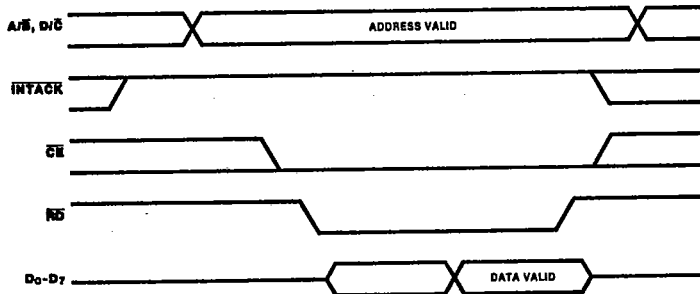

Figure 1. Read Cycle Timing
**Read Cycle Timing.** Figure 1 illustrates Read cycle timing. Addresses on  $A/\overline{B}$  and  $D/\overline{C}$  and the status on  $\overline{INTACK}$  must remain stable throughout the cycle. If  $\overline{CE}$  falls after  $\overline{RD}$  falls or if it rises before  $\overline{RD}$  rises, the effective  $\overline{RD}$  is shortened.